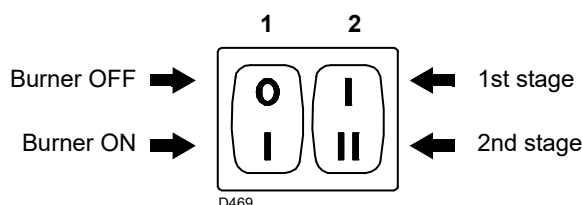

Fig. 28
- switch 1)(Fig. 28) to the “Burner ON” position;
- switch 2)(Fig. 28) to the “1st stage” position.
Now turn switch 2) (Fig. 28) to the 2nd stage position: the servomotor will open the air damper and, at the same time, the gas butterfly valve at 90°.
Turn switch 2) Fig. 28 on page 25 to the 1st stage position: the servomotor 1) will close the air damper and, at the same time, will also close the gas butterfly valve to 15° (i.e. to the factory setting).
- If it is necessary to increase it, pass to 2nd stage by activating switch 2) Fig. 28 on page 25 and slightly increase the angle of the orange lever with small, regular movements (i.e. bring it from an angle of 40° to 42° - 44°....).